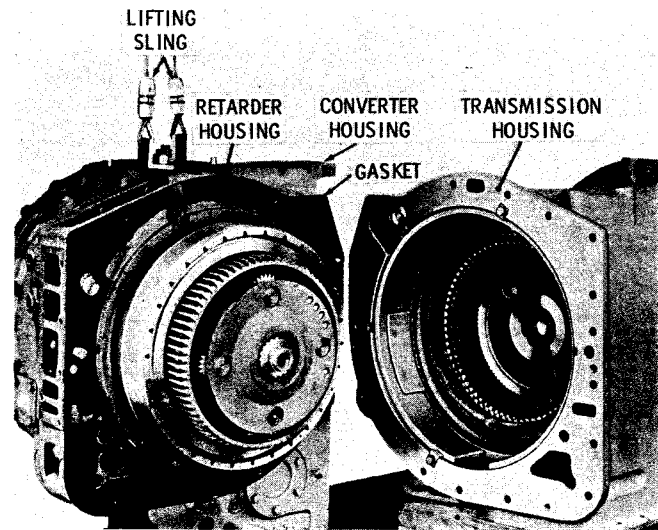

Fig. 5-10. Removing torque converter, converter housing and retarder housing (CBT, CLBT, VCLBT)
(1) On CBT, CLBT and VCLBT models, lower the transmission to rest on wood blocks (fig. 5-10). Attach a 2-strand lifting sling to the top of the torque converter housing. Remove the 17 remaining bolts and 17 lockwashers which fasten the transmission housing (fig. 5-10) to the retarder